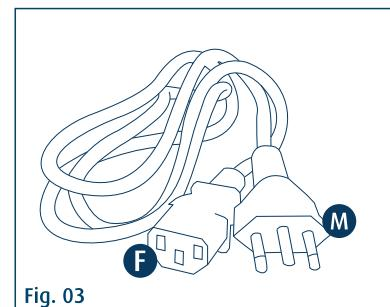

Fig. 03
PP Power Cord, 3-Way x 1mm, Length 2.3 meters. It has 2 plugs of 3 contacts being one (M) male and the other (F) female. (Fig. 03)